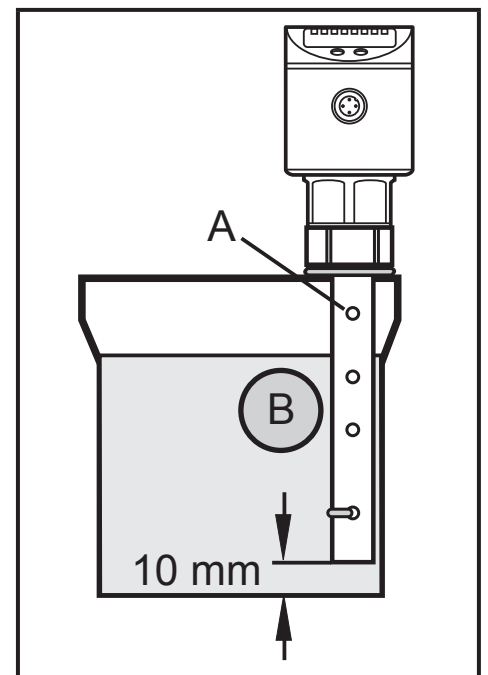

**Fig. 6-5**
- Installation in bypass or still pipe (see fig. 6-5)
The upper access to the steady area (fig. 6-5: A / B) has to be above the maximum level. The lower access (fig. 6-5: C / D) or the area with perforated sheet etc. has to be below the minimum level. This ensures that neither foam nor turbulence impact the sensor zone. When perforated sheets or the like are used, soiling (e.g. by metal swarf, particles, ...) can also be avoided.